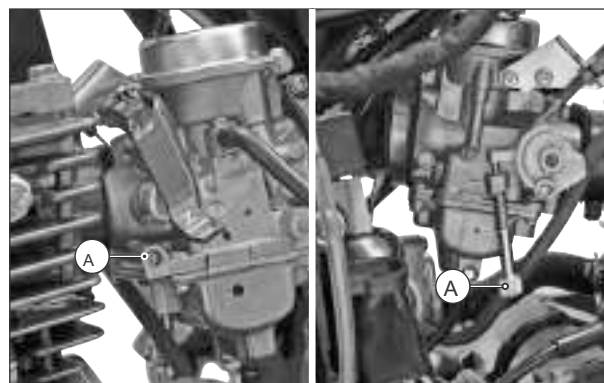

Fig. 2.44
If the engine performance is good, the mixture volume control screw (A) (MCS screw) need not to be disturb. The idling speed can be adjust only with idling screw (B) to specified limit. (Fig. 2.44)